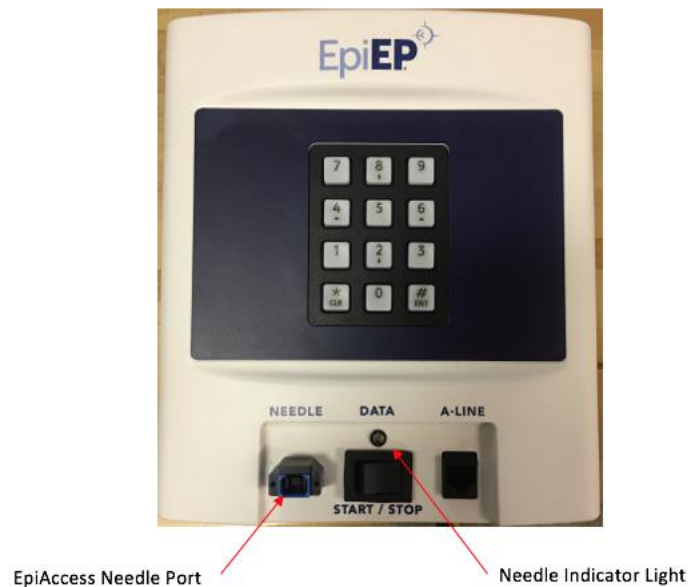

Figure 1 - A0005 EpiAccess Control Unit
The needle has an integrated, biocompatible fiber optic sensor housed within a stainless steel tube, which is welded inside its lumen (Figure 1). The EpiAccess Needle allows a 0.032” diameter guide wire to pass through the entire length of the needle. The EpiAccess Needle will be provided as single-patient use, sterile (EO), disposable (short-term use) device. It is supplied in appropriate protective packaging, consisting of a pouched tray in a SBS carton (box), to maintain sterility and product integrity. The EpiAccess Needle is used in conjunction with the EpiAccess Control Unit.